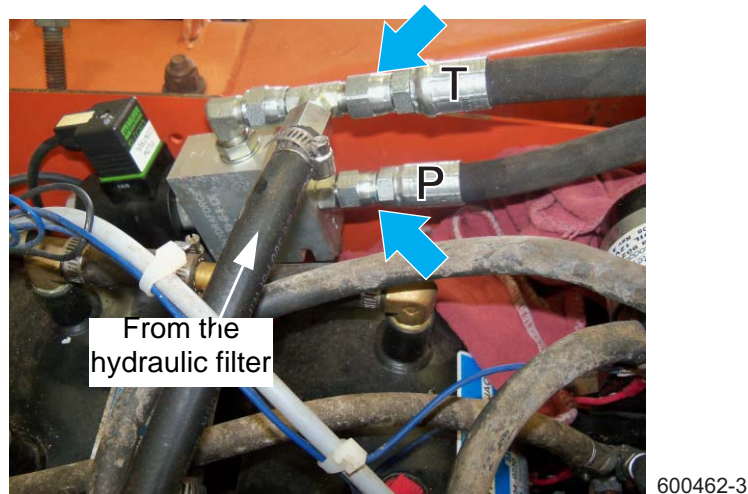

FIGURE 4
See Figure 4.
14. Connect the two hoses **P** (pump) and **T** (tank) of the new auxiliary hydraulic power unit to the fittings on the PFCV as shown in figure 4.